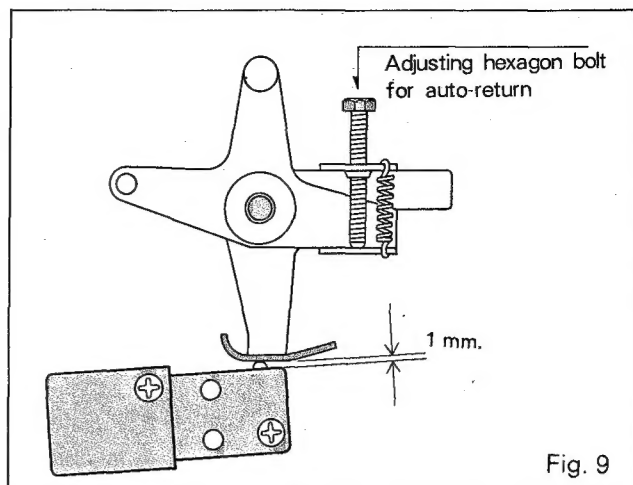

Fig. 9
- (1) Make sure the tone arm fixing plate is properly installed as shown in Fig. 9.
- (2) Put on a record and set the stylus down slightly outside the end sound groove or 65 – 70R from the center of the turntable. When the record ends, make sure the tone arm automatically returns from any of the following positions:
- (3) If the tone arm does not automatically return from all of the above positions, turn the adjusting hexagon bolt in Fig. 9 to adjust the tone arm return position. Clockwise turning of the screw brings the return position close to the center of the turntable and counter-clockwise turning of the screw moves the return position away from the center of the turntable.
- No: Rotate adjusting hexagon bolt (Fig. 9) of tone arm fixing plate counter-clockwise.
Rotate adjusting hexagon bolt (Fig. 9) of tone arm fixing plate counter-clockwise.
Rotate adjusting hexagon bolt (Fig. 9) of tone arm fixing plate clockwise.
- Yes: Adjust the clearance between the knob of microswitch and tip of tone arm fixing plate to 1 mm. (Fig. 9)